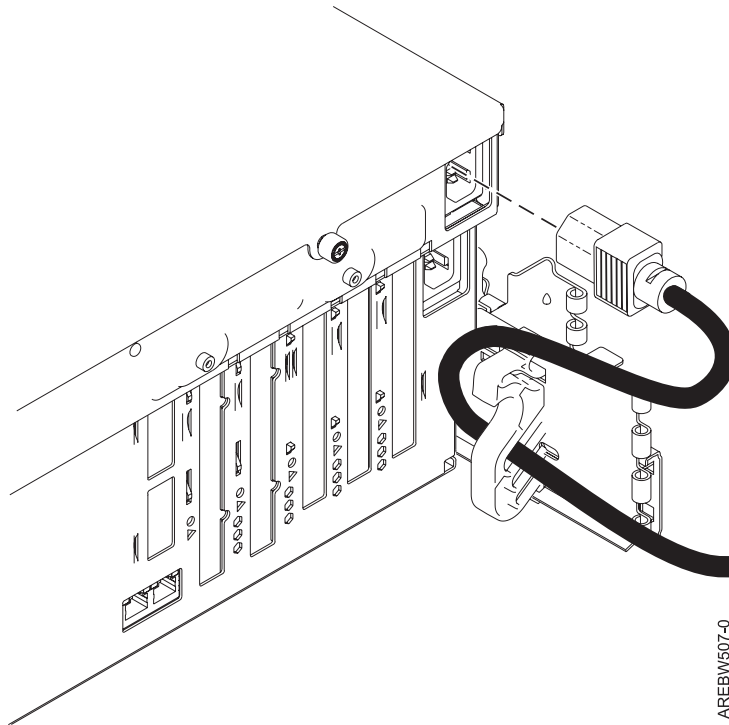

Figure 60. Routing system power cord
1. While facing the rear of the system unit, note the bottom tab of the cable-restraint bracket. Turn the cable-restraint bracket counter-clockwise to a horizontal position, and insert the bottom tab of the cable-restraint bracket into the bottom hole in the rail. Then rotate the cable-restraint bracket clockwise to the vertical position as shown in Figure 60 on page 56. Insert the system power cord through the cable-restraint bracket as shown in this figure. Then press down on the top of the bracket and insert the top tab into the top hole.